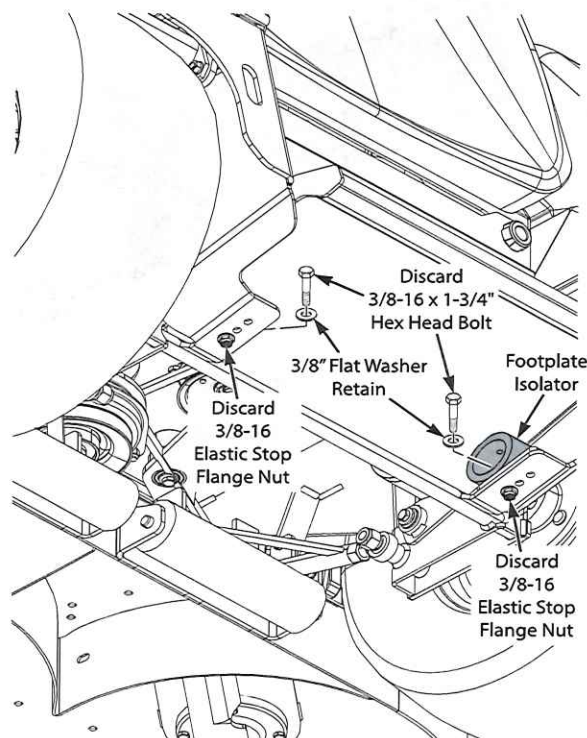

Figure 1. Remove Footplate Isolator Mounting Hardware
3. Remove and discard two (2) 3/8-16 x 1-3/4" hex head bolts and two (2) 3/8-16 elastic stop flange nuts used to secure the LH & RH footplate isolators to the frame of the machine. Retain the 3/8" flat washers for re-use in step 4. See Figure 1.